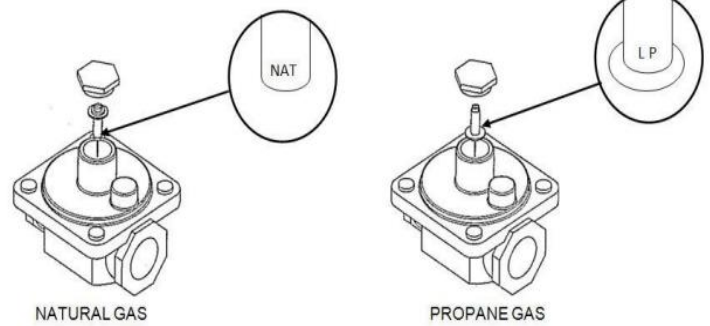

Fig. 2
2. Set the regulator by inverting the regulator spring plug (Fig. 2).